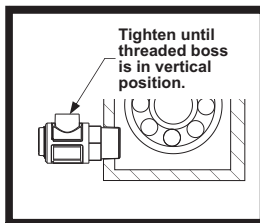

Fig. 2
- Tighten Watchdog using an open end wrench until internal threaded boss is vertical (Fig. 2). When tightening plastic main body, tighten one turn from bottoming the hex against housing wall.